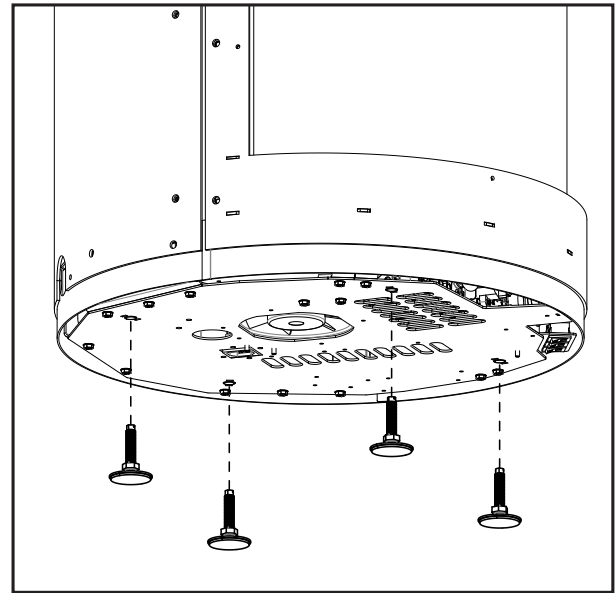

Figure 78: Leveling Leg Removal
Remove the four (4) leveling legs from the bottom of the unit (see Figure 78). These levelling legs will be reinstalled on the pedestal.